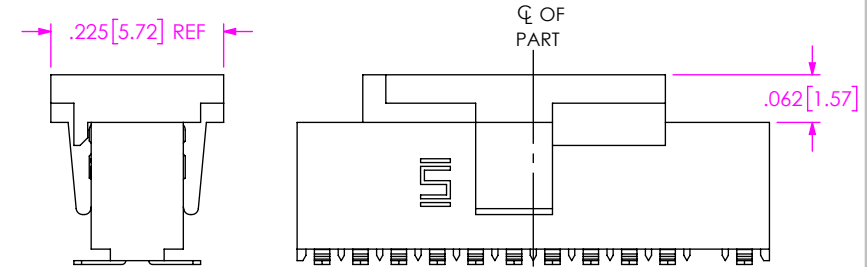

FIG 3
-P: PICK AND PLACE PAD (SEE FIG 3, SHT 2) (USE PPP-02) (5 POSITION MINIMUM)